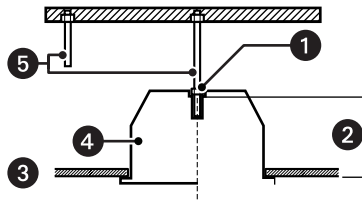

Figure 19. Installing the Anchor Bolts
2. Install two anchor bolts (not supplied, M10 recommended) into the concrete ceiling (refer to Figure 19).